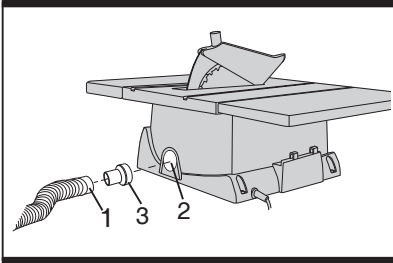

Fig 24
- To prevent sawdust build up inside the saw housing, attach a vacuum hose (1) to the dust port (2) at the rear of the table saw. DO NOT operate the saw with the hose in place unless the vacuum is turned on (See fig. 24).